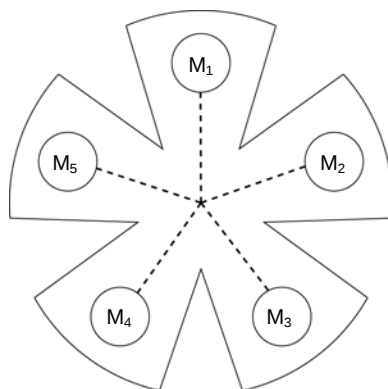

Figure 1: Filter paper diagram
1. Draw five small circles with connecting lines on a piece of circular filter paper (11-cm diameter), as shown in Figure 1. Label the circles M_1 , M_2 , M_3 , M_4 , and M_5 .